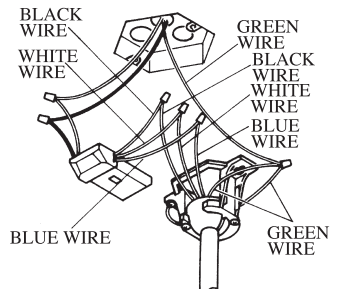

FIG.8
- Connect the black wire from receiver to the black wire from fan with wire nut. Connect the white wire from receiver to the white wire from fan with wire nut. Connect the blue wire from fan with wire from receiver with wire nut. Connect the green wire from ceiling and green wire from hanger bracket with green wire from hanger ball with wire nut (see fig.8)